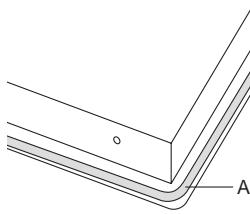

Fig. 13: Sealing strip
- Remove the protective foil from the sealing strip (A) and apply the strip as far out as possible on the underside of the glass (see fig. 13).